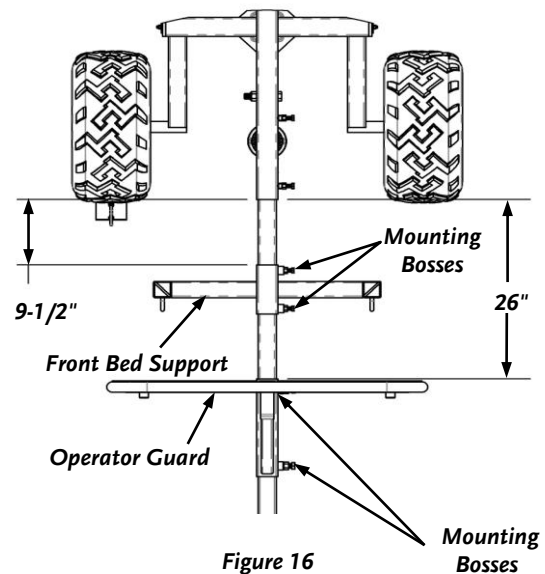

Figure 16
1. Slide the Front Bed Support onto the Tow Bar with the Mounting Bosses facing the Left, 9-1/2" from the end of the Main Frame (**Figure 16**).
3. Slide the Operator Guard onto the Tow Bar with the Mounting Bosses facing to the Left, 26" from the end of the Main Frame (**Figure 16**).